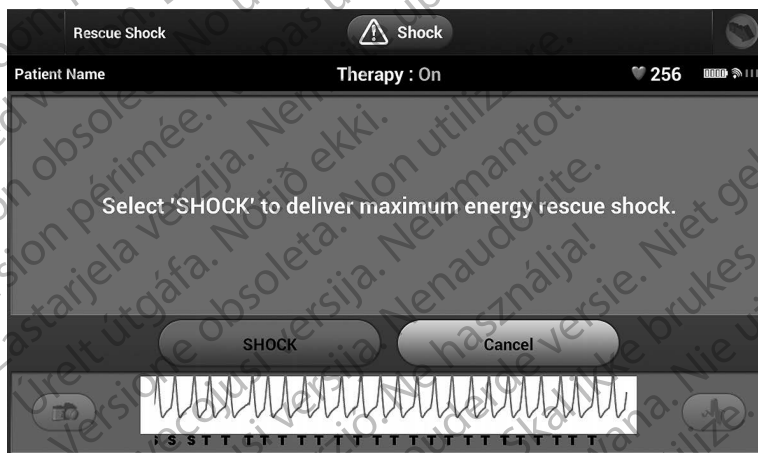

Figure 25: Rescue Shock screen
1. Select the red Rescue Shock Icon at the top of the programmer screen. The Rescue Shock screen appears (Figure 25).